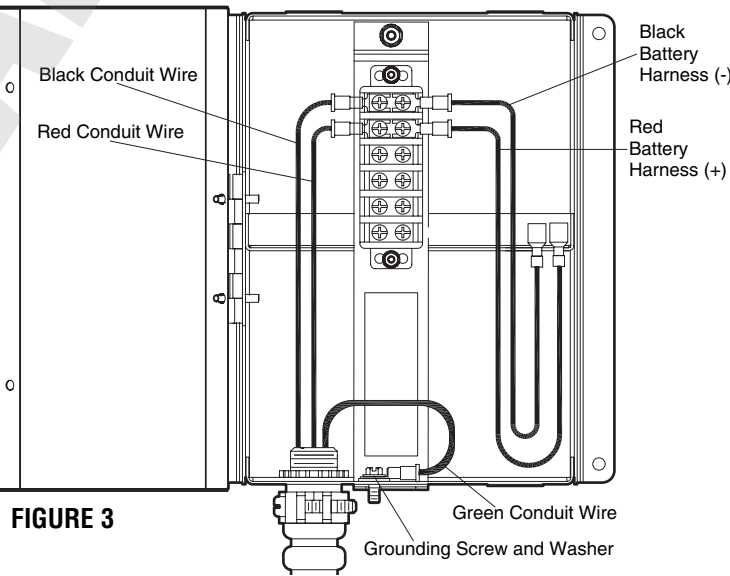

FIGURE 3
- Connect one end of the conduit provided to the desired knockout on the **Remote Battery Box** and make connections as follows (Figure 3):